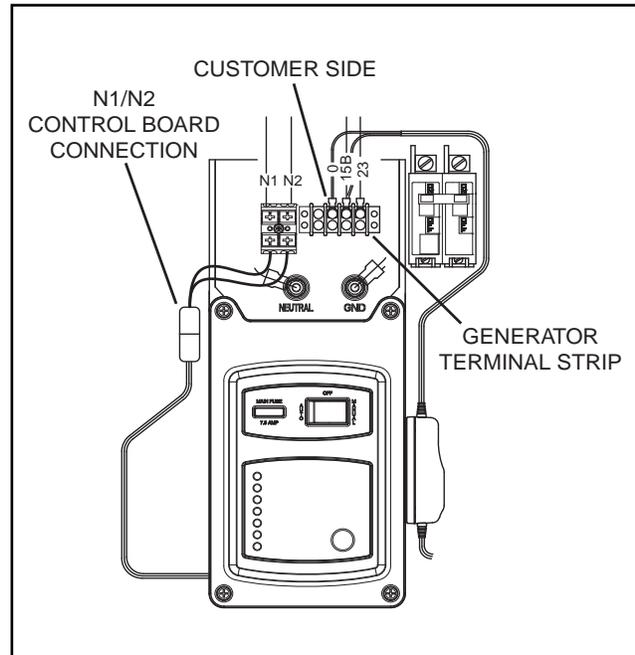

Figure 6. Transfer Relay Test Points
6. Locate the terminal strip in the generator control panel. Disconnect Wire 23 coming in from the transfer switch (customer connection, side-see Figure 6).
8. Locate the terminal strip in the generator control panel. Disconnect Wire 23 coming in from the transfer switch (customer connection, side - see Figure 6).
11. Connect one meter test lead to Wire 23 connected at generator terminal strip. See Figure 6. Connect the other meter test lead to control panel ground.
4. Remove the generator control panel cover. Disconnect the N1/N2 connector that supplies the printed circuit board located in the control panel (see Figure 6).